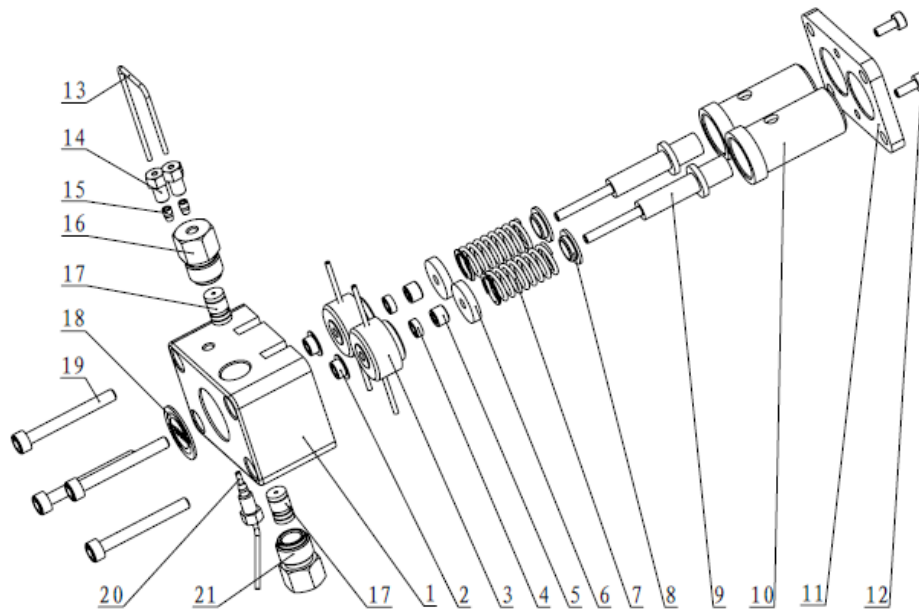
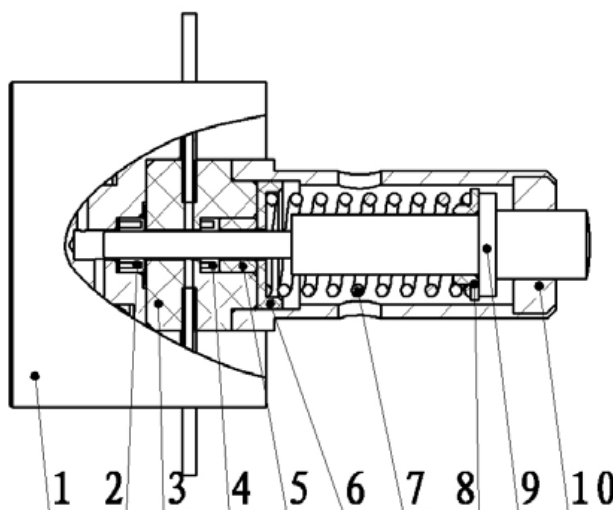

Figure 4-3: pump head assembly
Figure 4-4: Cross-section of sapphire plunger
- 4) When installing the pump head, pay attention to evenly tighten the four fixed screws, referring to figure 4-3.
Pump head disassembly and installation methods are as follows (Refer to figure 4-3, figure 4-4):
- 1) Place the pump head body on a flat surface. Use 2.5# hexagonal key to unscrew the 2 mounting plate screws, #12 on Figure 4-3. Remove the clamp (10#).
- 2) Unload the sleeve (figure 4-3 #10), plunger rod components (figure 4-3 #9), plunger spring (figure 4-3 #7), locating sleeve (figure 4-3 #3) etc.
- 4) Take out the primary seal carefully (figure 4-3 #2) (user should not remove it unless replace a new one is needed).
- 5) Put the new primary seal (the openings with spring should be in the direction of the pump head) into the pump head body (figure 4-4 #1).
- 6) Place all parts in order according to figure 4-4. Install the pressure plate.